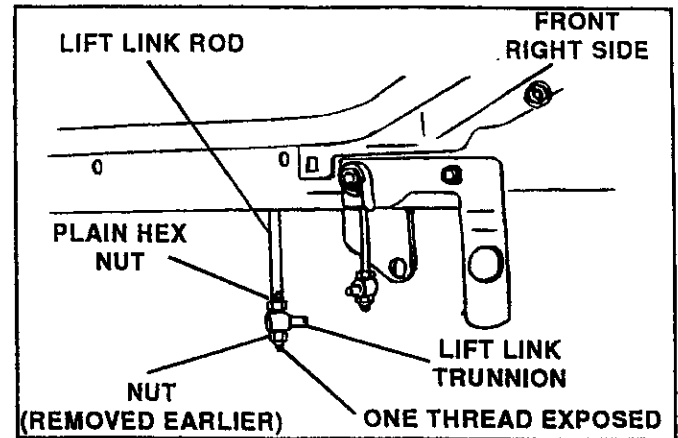
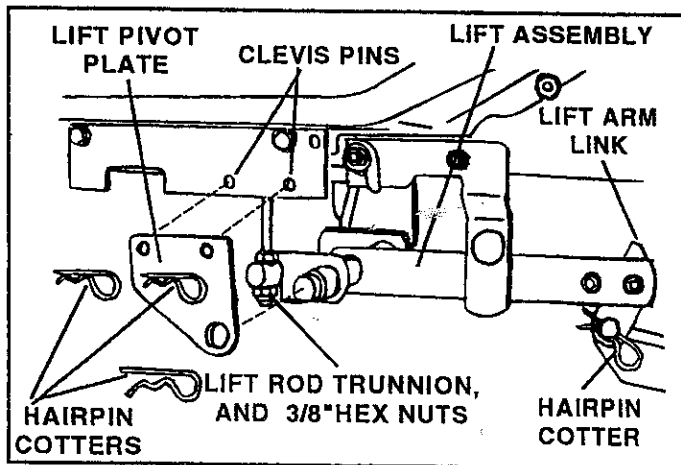

FIGURE 16
FIGURE 32
12. Assemble 3/8" plain hex nut, lift rod trunnion and lock nut (removed from tractor lift link rod in tractor preparation section) onto right and left hand lift link rods until one thread is below bottom of nut. Tighten nuts lock trunnion in place. See figure 16.
2. Refer to figure 32 below and;
- D. Remove lift rod trunnions and hex nuts from each lift link rod. See Figure 32 and figure 16 on page 7.
Frame Brackets do not require removal for re-assembly of mower deck. See figure 32.